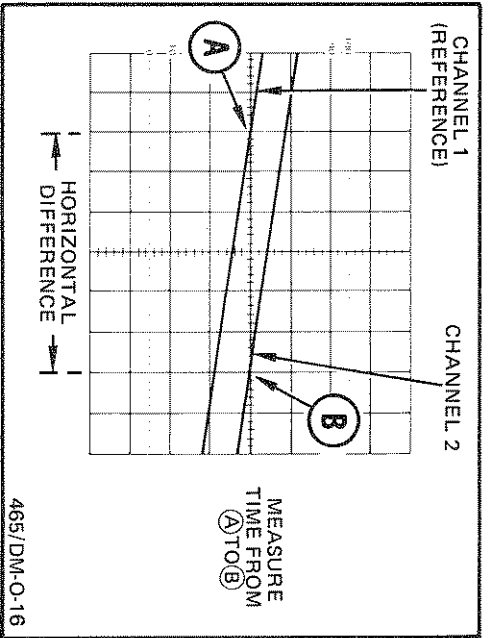

Figure 20. High-resolution phase difference.
**EXAMPLE:** If the sweep rate were increased 10 times with the magnifier (X10 MAG push button in), the magnified horizontal graticule calibration would be  $45^\circ$ /division divided by 10 (or  $4.5^\circ$ /division). Figure 20